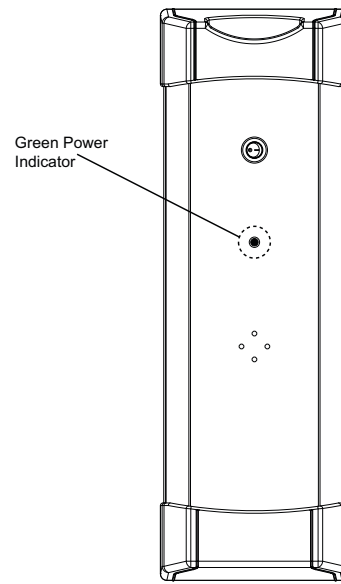

Fig. 18 - Power Indicator (Green LED)
4. The green indicator light above the Air Purifier power switch should illuminate (see Fig. 18).
The Air Purifier is equipped with a power indicator light located on the door (see Fig. 18). This power indicator light will illuminate when the Air Purifier door is installed, the power switch is in the on position, AND the furnace blower is running. If a Flow Sensor Kit (model KIT-160-000) is installed in the Air Purifier and there is no airflow, the power indicator light will blink slowly (once every 3 seconds) indicating that the purifier is in "STANDBY" mode.
NOTE: The green indicator light on door cover shown in Fig. 18, Power Indication (Green LED).